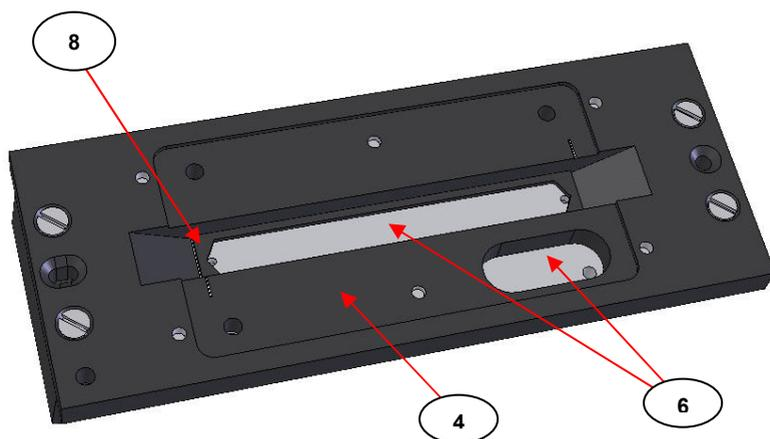

Fig 8. Isolast Gasket Seal in the Gateway™ ATR Flow Through Top Plate
When the ATR crystal (7) has been removed from the Top Plate assembly, access can be gained to the Isolast gasket seal (8) for cleaning or replacement with new if necessary. (See Fig 8.)
- 1) Having cleaned all of the parts sufficiently and whether installing a new crystal (7) and/or new Isolast gasket (8), re-assemble the Gateway™ ATR Flow Through Top Plate first by aligning correctly and centrally the Isolast gasket seal (8) into the underside channel recess of the main body plate (4). (See as for Fig 8.)